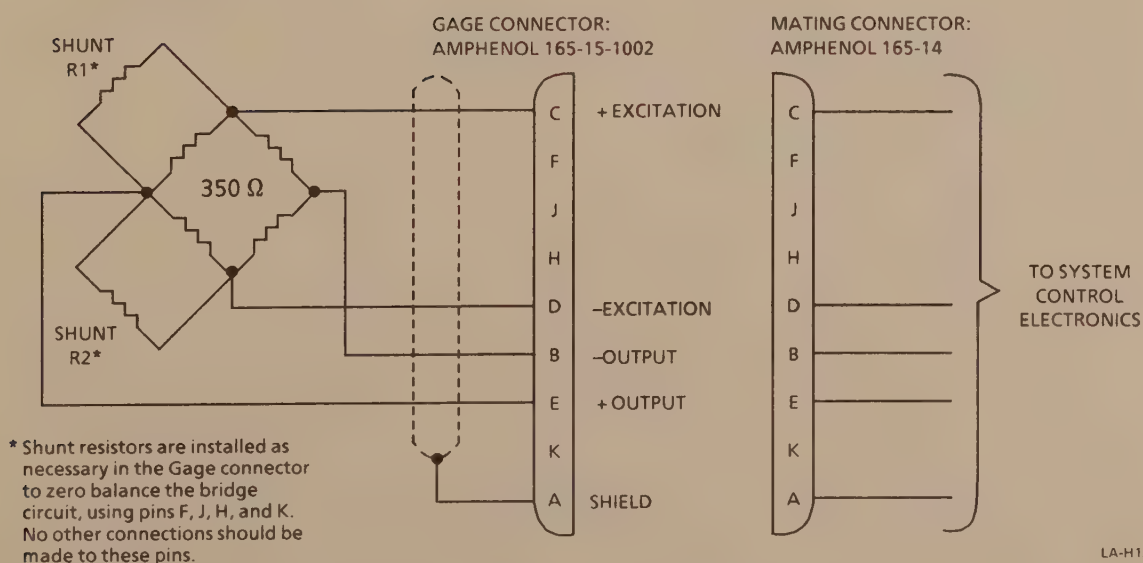

Figure 4-5. Bridge Circuit and Connector
1. Connect the Gage connector to the mating connector on the cable going to the system control electronics. Refer to Figure 4-5 for a drawing of the Gage bridge circuit and connector.